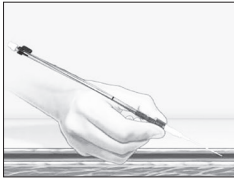

Figure 1
- Perform arterial puncture. Blood flashback in clear hub of introducer needle indicates successful entry into vessel (refer to Figure 1).